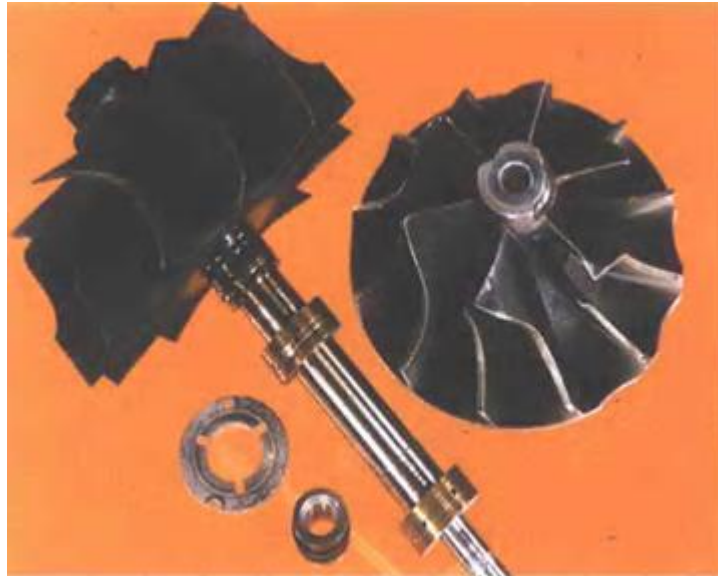

Fig. 15
- As shown in Figure 15, waste gate removal is relatively easy. Simply unbolt the fasteners, remove the lines, and lift the unit off the engine.